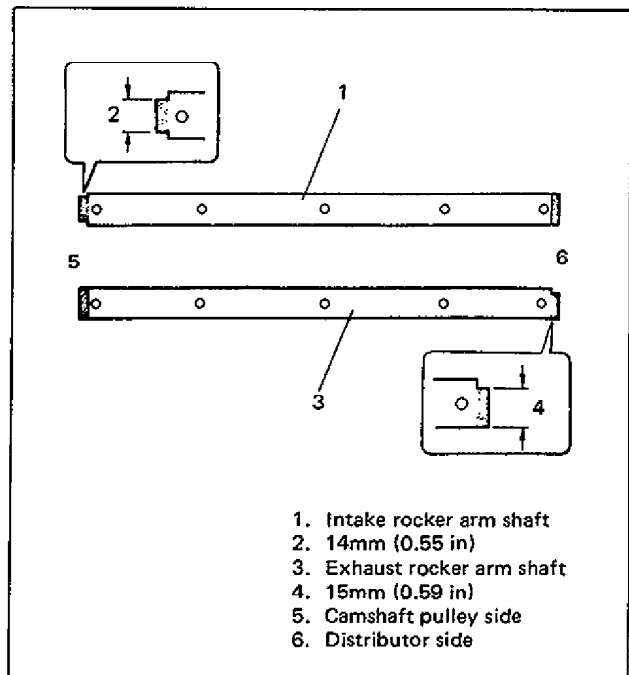

Fig. 6A-74 Rocker Arm Shafts Installation
The two rocker arm shafts are different. To distinguish between the two, the dimensions of their stepped ends differ as shown in Figure 6A-74. Install the intake rocker arm shaft, facing its stepped end to camshaft pulley side, and the exhaust rocker arm shaft, facing its stepped end to distributor side.
7. After installing rocker arms springs, and rocker arm shafts as shown in Figure 6A-75, tighten the rocker arm shaft screws to the specified torque.